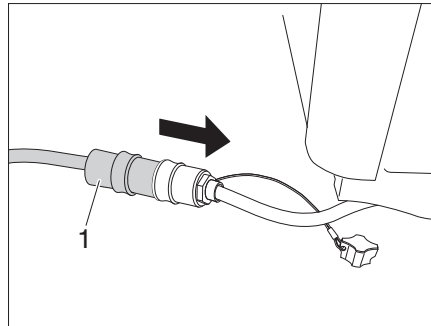

Fig. 64 Connecting the extension cable
- Connect the extension cable (Fig. 64,1) to the kitchen unit and to the electrical connection in Campster entry.
- ▷ Use the extension cable (Fig. 64,1) only when using the kitchen unit outdoors.